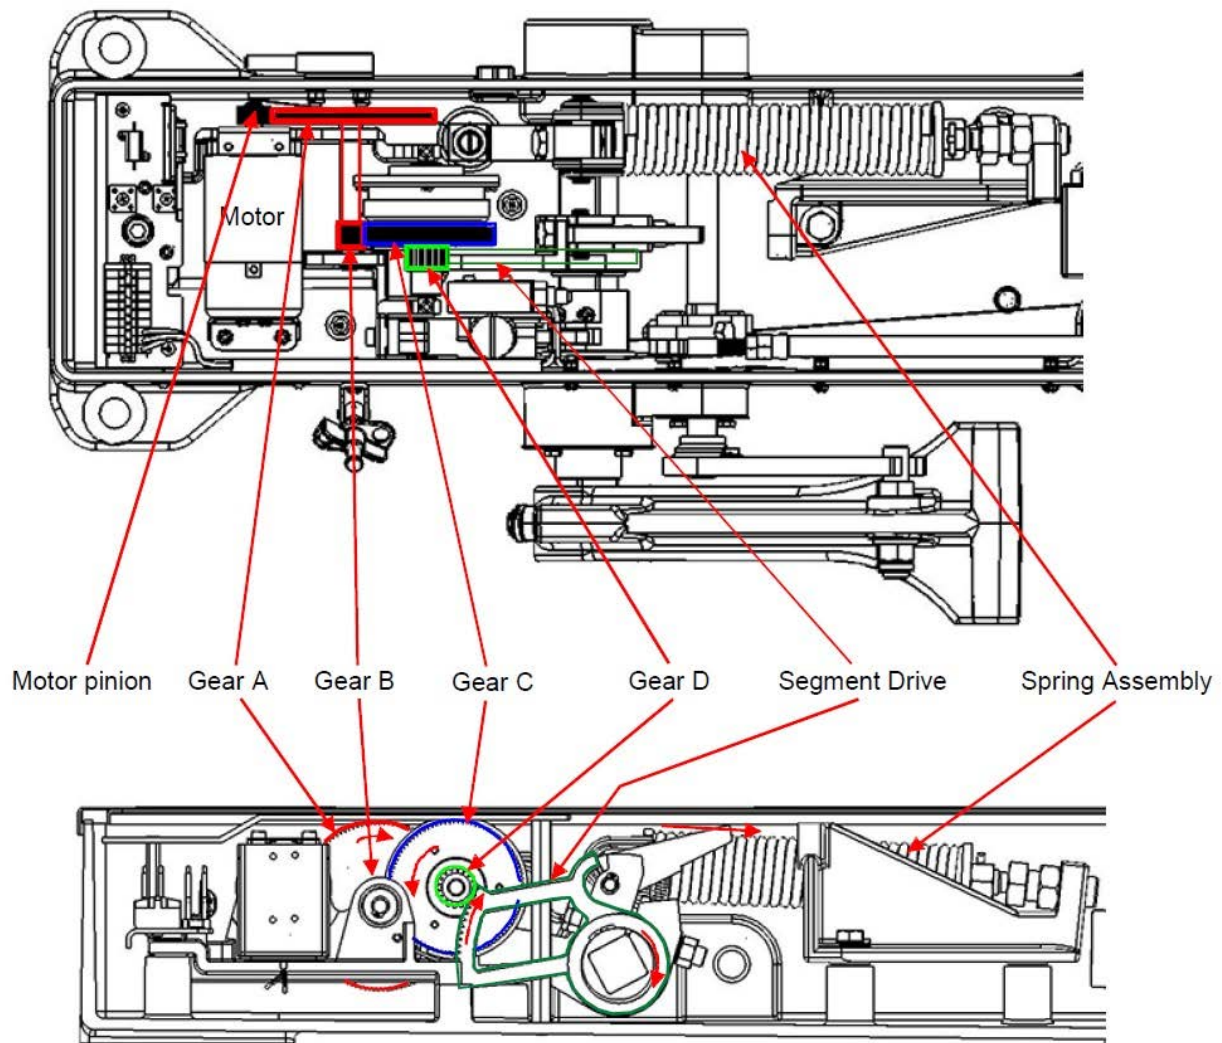

Figure 1 – Trainstop Drive System
- a) A clutch failure is indicated by the motor operating, driving Gear C via Gear B (see Figure 1) but Gear D not being driven.
- a) A clutch failure is indicated by the motor operating, driving Gear C via Gear B (See Figure 1) but Gear D not being driven.